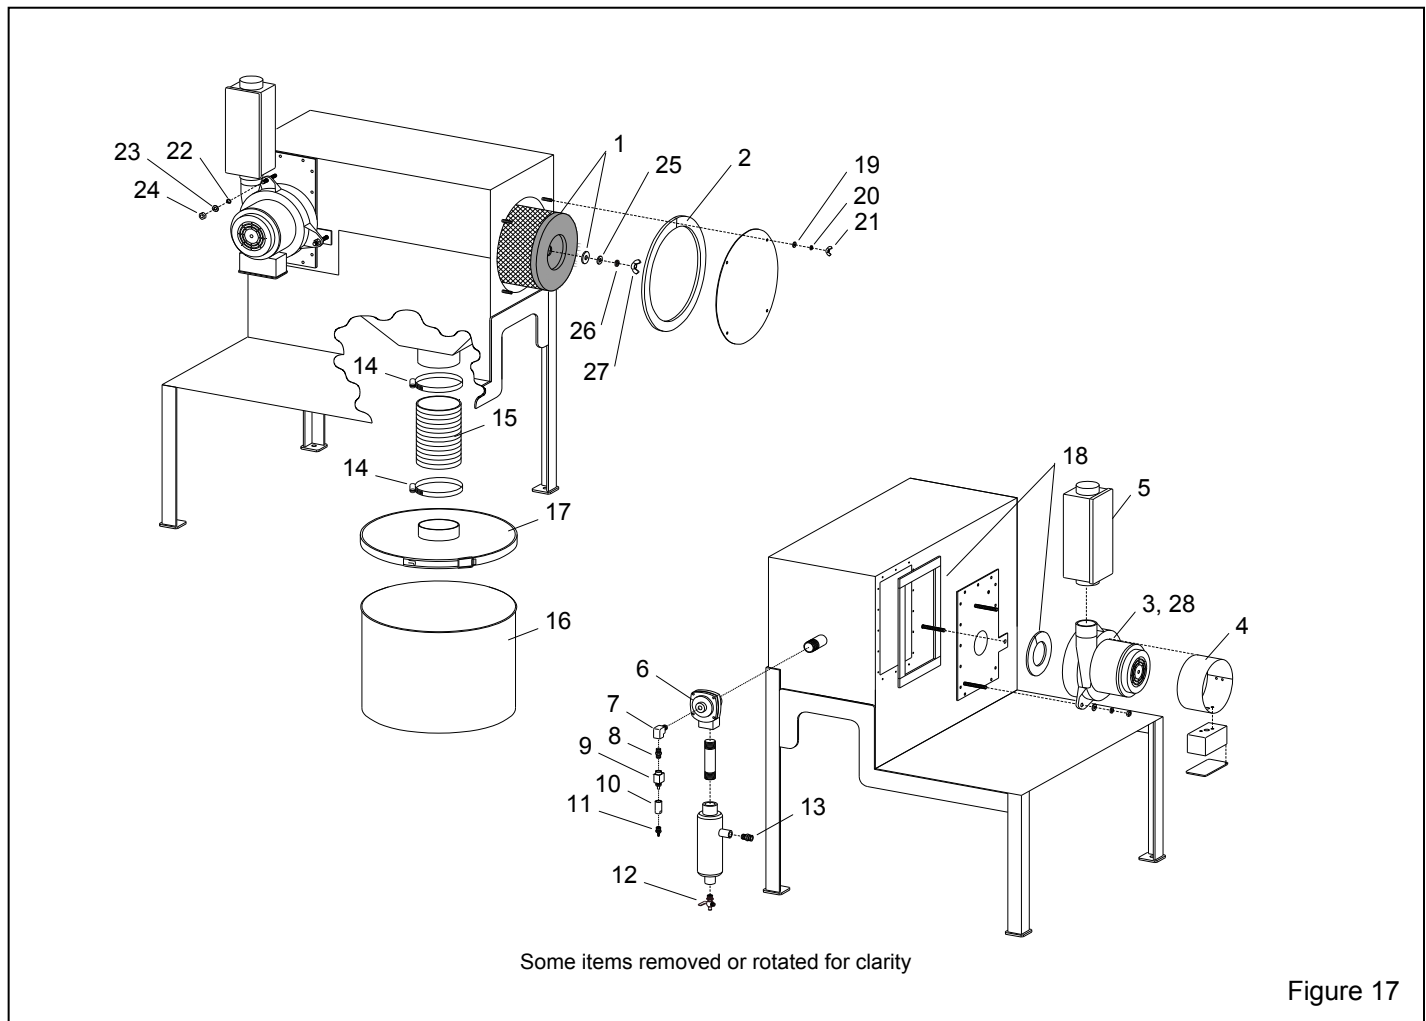

Figure 17
**8.6 Dust Collector Assembly, Figure 17**